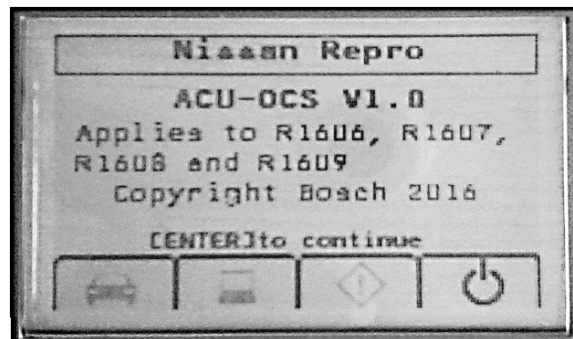

Figure A2
- When boot-up is complete and the Start Screen (see Figure A2) is displayed, the BOSCH MTS 6513 is ready to perform zero point reset.
- If the screen in Figure A2 does not display, the correct software has not been loaded into the BOSCH MTS 6513.